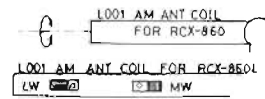

Fig. 2-4
5. Receive 648 kHz (650 kHz, channel space = 10 kHz) signal from the AM signal generator, adjust MW coil of AM antenna L001 on the rear panel to obtain maximum sensitivity (Fig. 2-4).
4. Receive 164 kHz signal from the AM signal generator, adjust LW coil of AM antenna L001 on the rear panel to obtain maximum sensitivity. (Fig. 2-4)